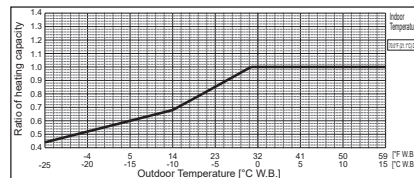

Figure 5 Outdoor unit temperature correction
(5) Outdoor Unit Correction Calculation
- Outdoor Design Wet Bulb Temperature Correction (23.0°F) 0.85 (Refer to Figure 5)